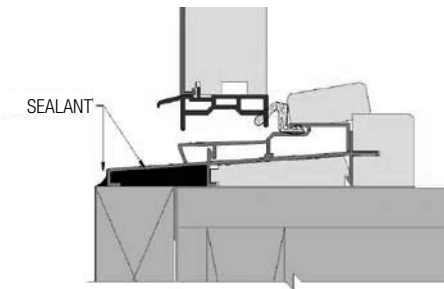

FIG. 17: OUT-SWING SILL
- C) For in-swing and out-swing patio doors: Apply silicone to seal each end of the sill cavity that protrudes from the rough opening, including handicap sill. (Fig. 17 & 18)